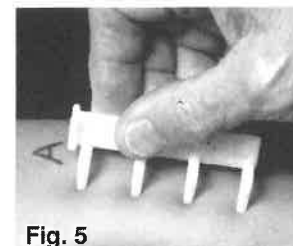

Fig. 5
2. Point the "T-bar" end of the MULTI-TEST II toward a constant reference point such as the head of the subject being tested and press the loaded unit into the skin with sufficient pressure to allow adequate penetration of the points. Pointing the "T-bar" toward a constant reference point greatly reduces any possibility of incorrectly identifying the extract (or control) applied at each test site. See Figure 5. **With proper pressure, a distinct puncture pattern from the points will be observed at each test site.** If the skin is taut, less pressure is required to gain proper penetration of points. With proper pressure, bleeding rarely occurs. In some cases the contour of the testing area may be such that **slight** "rocking" of the MULTI-TEST II unit will be required to gain adequate and uniform penetration of points from all test heads. For example, particular attention must be given to proper penetration of points on test heads No. 4 and No. 5 when the volar surface of the forearm is used, because these two test heads will be closest to the wrist over an area where the contour of the forearm narrows. A "feel" for using MULTI-TEST II properly is gained quickly after just a few applications. It is desirable to visually check each test site to be sure that adequate point penetration has been achieved.